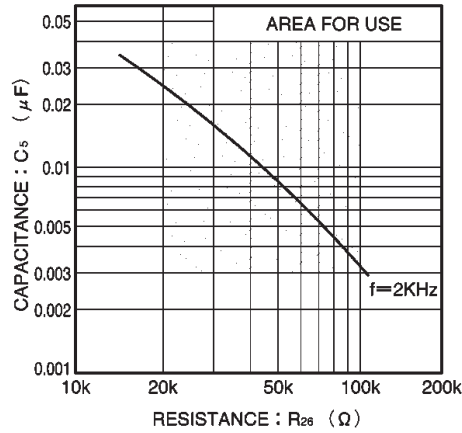

Fig. 7 Value of external components for oscillator (VCC = 5.0V)
3) The external resistor R26 connected to the oscillator (pin 30) should be in the range of 20kΩ and 100kΩ. If it is outside this range, oscillation may stop due to the influence of temperature (see Fig. 7).